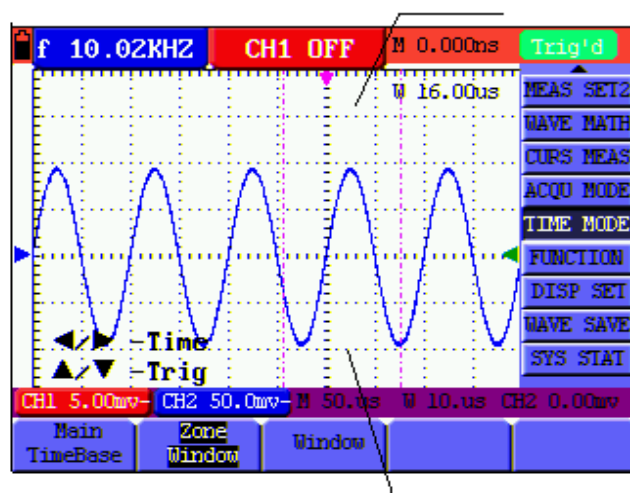

Figure 67: Zone Window
- The screen that looks like the following figure 67, 68 will be displayed.